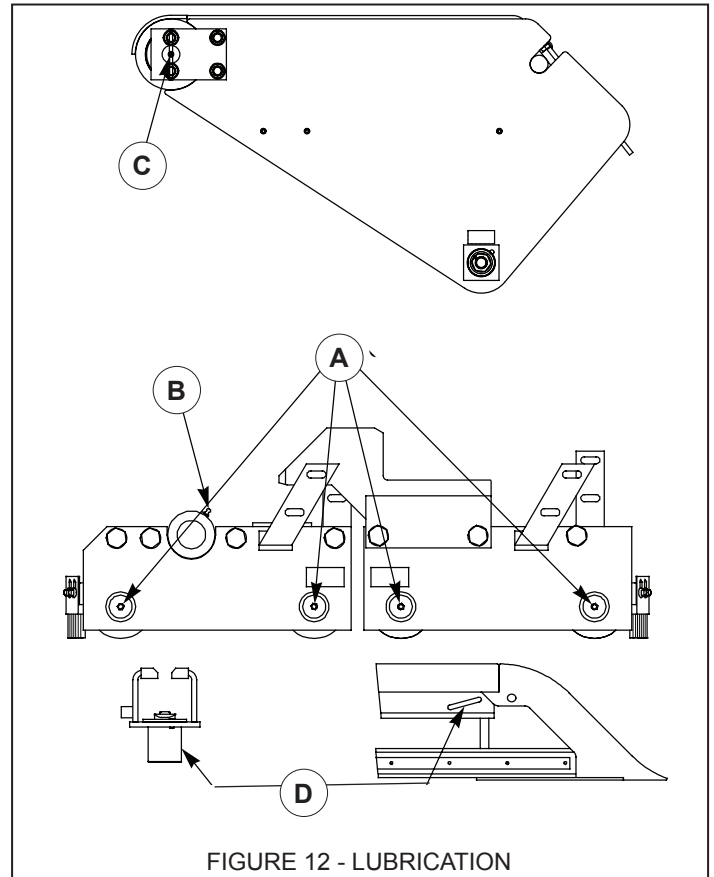

FIGURE 12 - LUBRICATION
2. See Figure 12. Grease rollers at fittings located on both sides of trolleys (8 places) (A), lock arm (B) and barrier roller (C). Use Mobilith SHC220 No. 2 grease or equivalent temperature range lithium based grease (Two (2) to three (3) pumps with a grease gun).
3. Lubricate Pawl Guide Shaft and Lifting Rail Slots with a Dry Spray Lubricant (D) with a Dry Spray Lubricant DO NOT USE Moly-Based Grease.